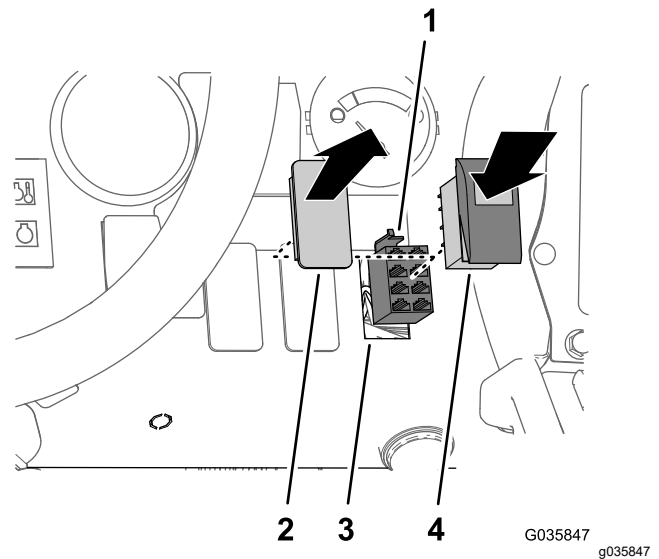

Figure 35
1. Remove the switch plug in the dash panel at the location shown in Figure 35.
2. Connect the 8-socket connector of the wiring harness of the ultra sonic boom finishing kit labeled SONIC MODE MANUAL VS. AUTO to the rocker switch (Figure 35).
3. Insert the rocker switch in the dash panel opening until the switch snaps securely (Figure 35).